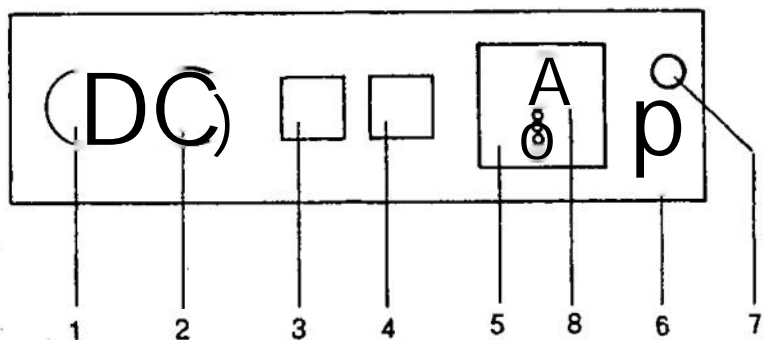

Figure 4
- Push momentarily start and then stop button (parts 6 and 7, figure 4) and check for proper direction of rotation.
- Push start button (part 6, figure 4)
- Push stop button (part 7, figure 4)